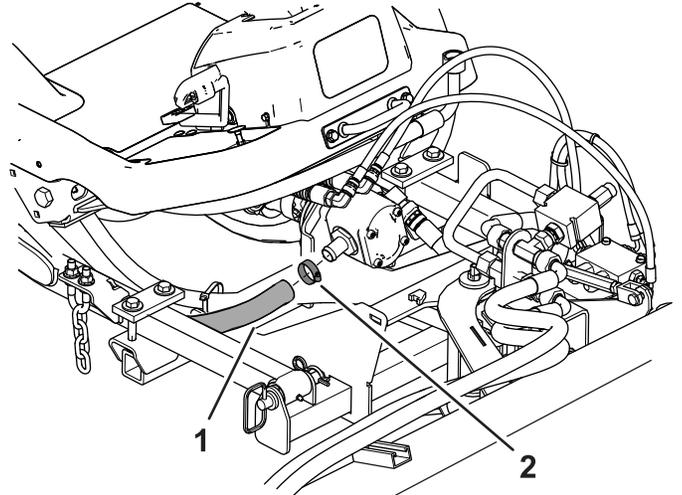

Figure 15
1. Install the strainer hose to the broom pump (Figure 15).